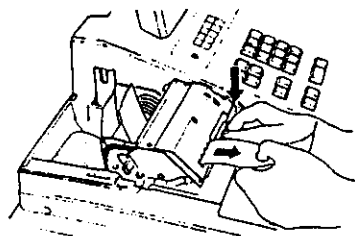

Fig. 7
2. Tear the paper end off the paper core, pull the paper end out while depressing the Free Lever. (Fig. 7)